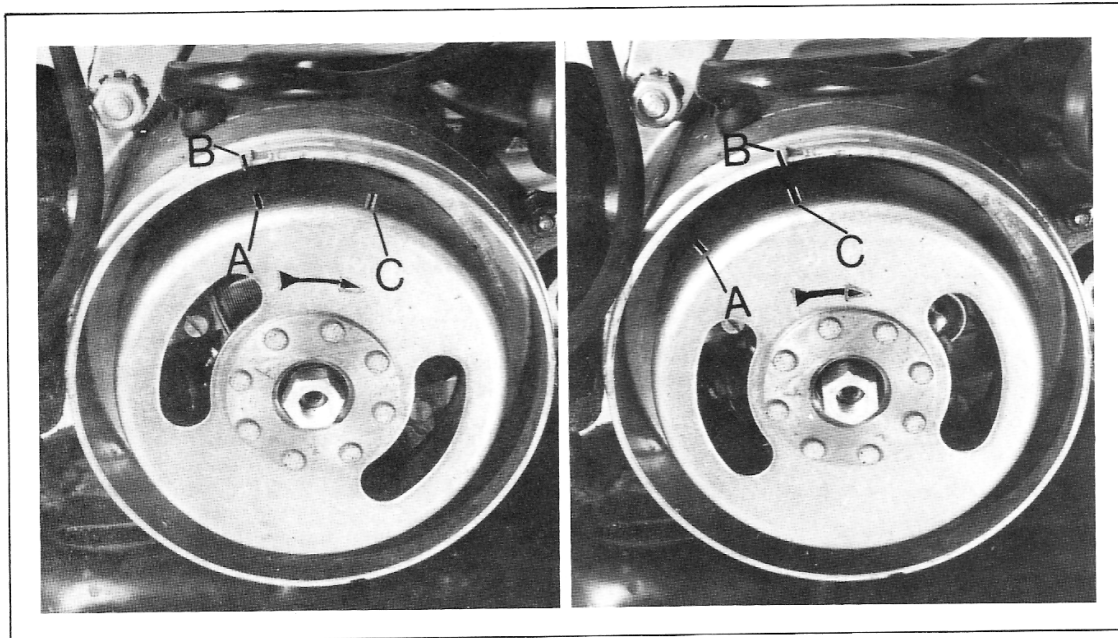
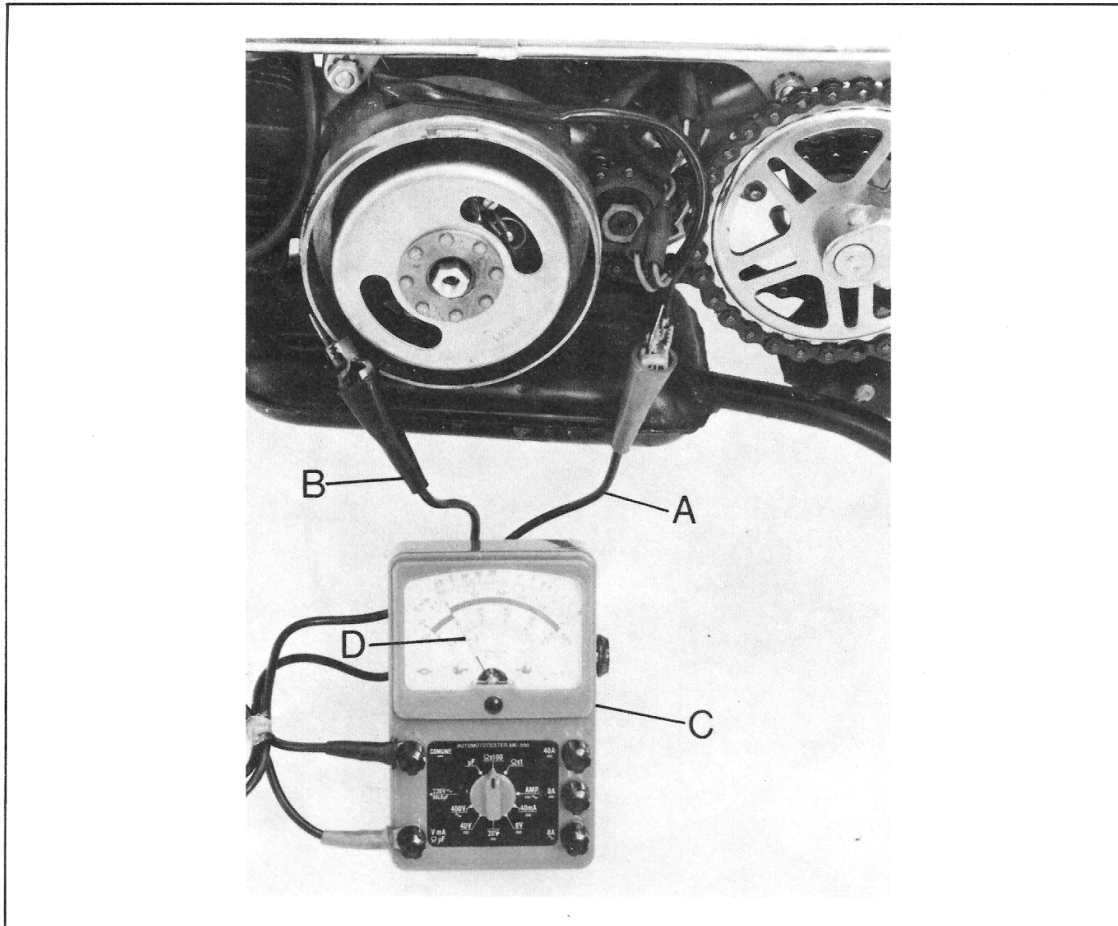

Fig. 7
Fig. 8
- Turn the flywheel clockwise till mark «A» on the rotor is in line with mark «B» on the crankcase cover (See fig. 7). At this point the piston is at TDC.
- Connect the cables of tester «C»: cable «A» to the flywheel cable, cable «B» to the earth on the engine (see fig. 8).
- Turn the flywheel anticlockwise till mark «C» on the rotor is in line with mark «B» on the crankcase (See fig. 7). At this stage, if all is well, the pointer of tester «D» (fig. 8) should start moving in a clockwise direction. This means the ignition occurs exactly at the specified point (29° 25.5 mm (1") as measured on the rim of the flywheel rotor).
- If the mark of rotor «C» is not on line with mark «B» on the crankcase (fig. 7), it is ne-
right or left till marks «B» and «C» (fig. 7) are lined up when pointer «D» of tester «C» starts moving.